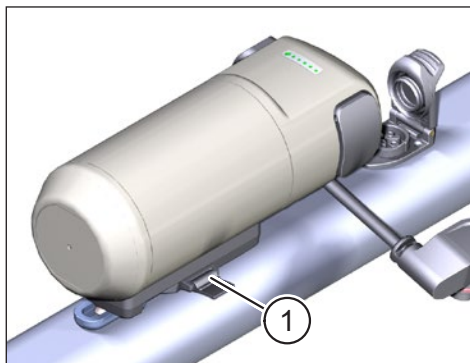

Fig. 6: FIDLOCK® system locked
- ▶ Push the locking tab in as far as it will go (see Pos. 1 in Fig. 6), to fix the Range Extender firmly in place.